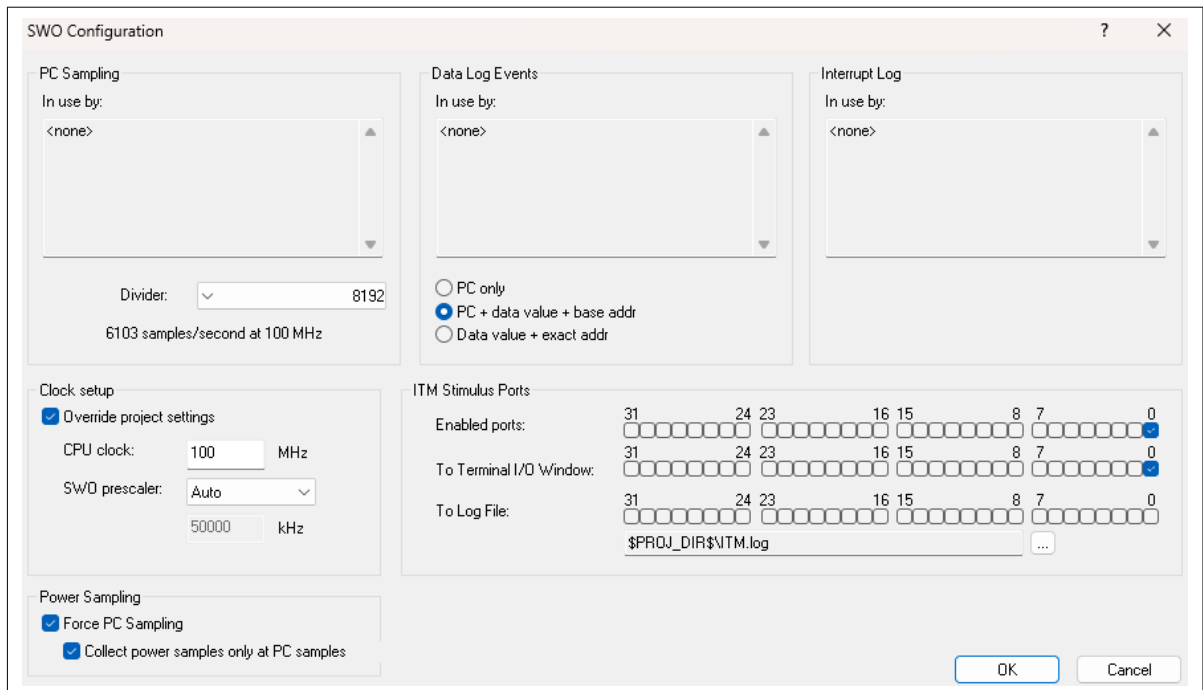

Figure 16 SWO Configuration
2. Go to **I-jet > SWO Configuration** and configure it as shown in Figure 16